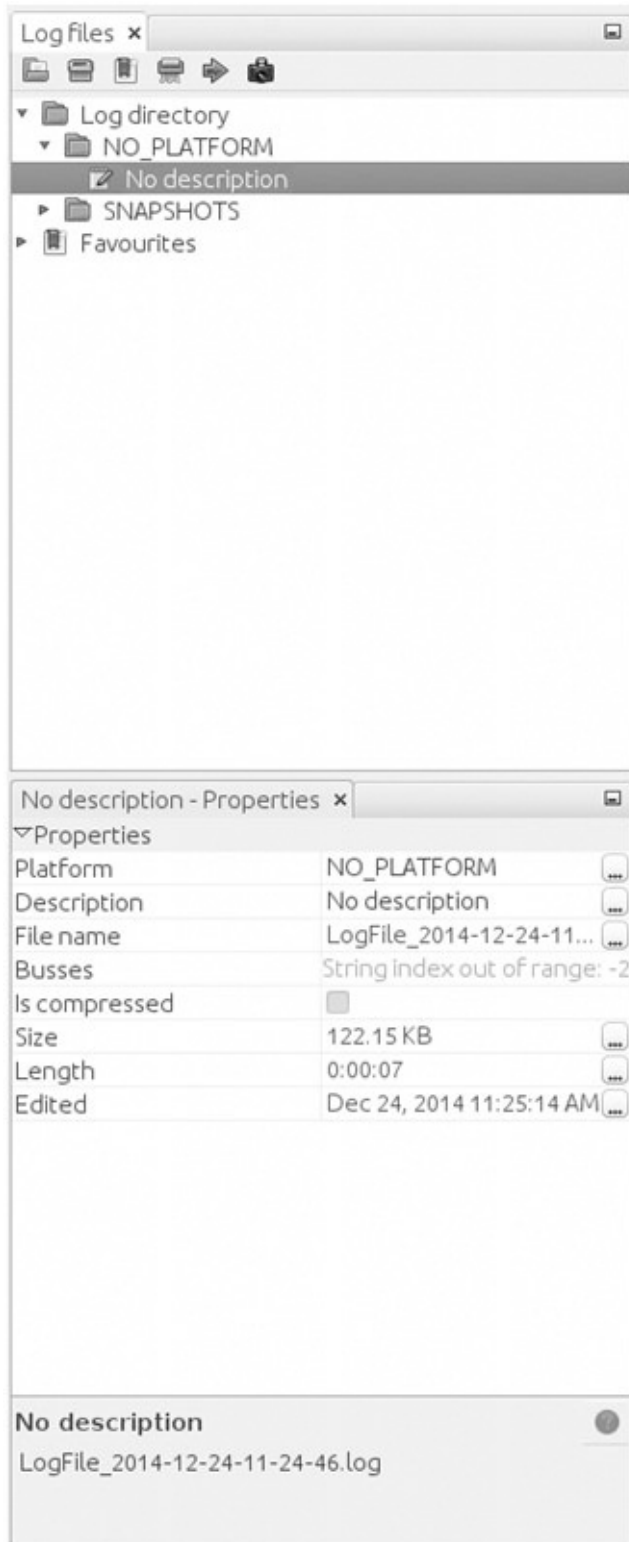

Figure 5-5: Right pane of Log files tab settings
the Log Directory drop-down menu (see Figure 5-5).
log is pretty much the same as the one captured by the `can-utils` package: ❶ is the timestamp, ❷ is your bus, and ❸ is your arbitration ID and data separated by a # symbol. To play back the capture, right-click the **Log Description** in the right panel, and open the recording (see Figure 5-5).